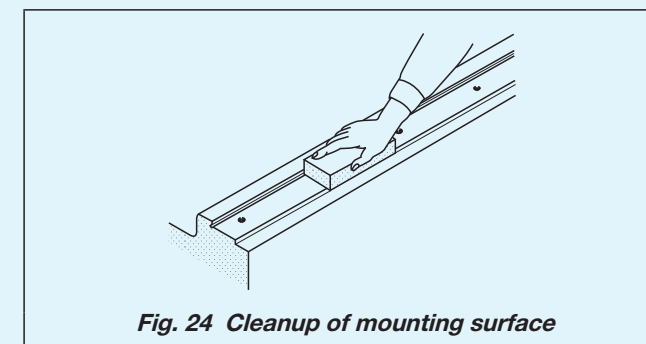

Fig. 24 Cleanup of mounting surface
① Cleanup of mounting surface and reference mounting surface
- Remove burrs and blemishes by using oil-stone, etc. from reference mounting surface and mounting surface of the machine or the device to which Linear Way is mounted and wipe off with clean cloth. (see Fig. 24)